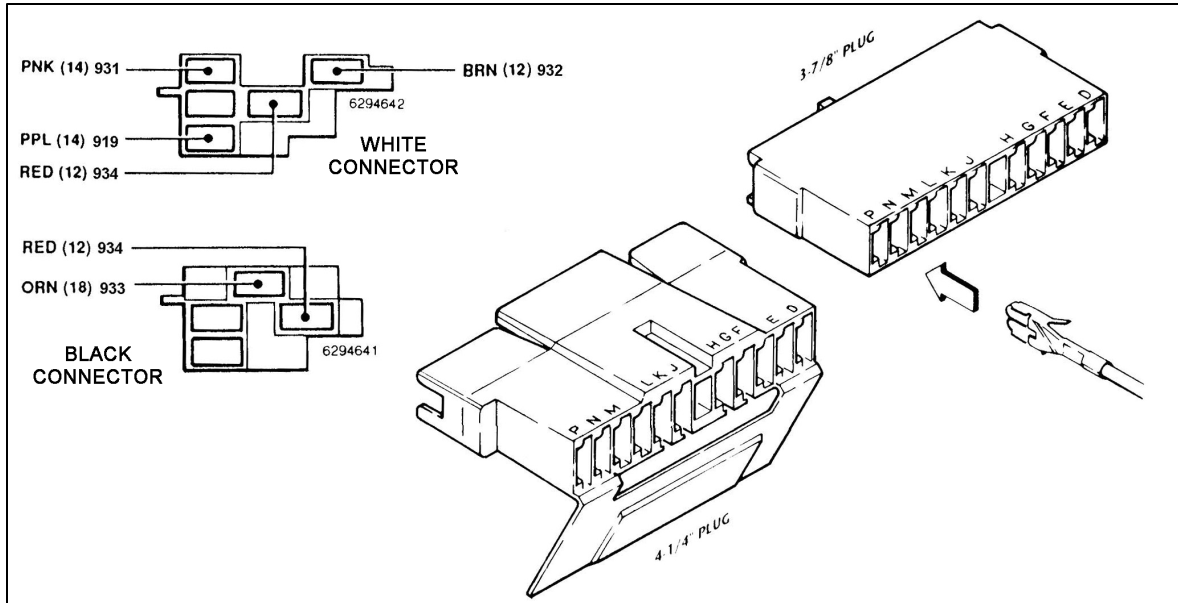

Figure 9-3 GM Ignition and Turn Signal Connectors (Aftermarket Column)
9.2 There are two different plugs on aftermarket tilt columns. The difference is in the length of the male plug that is mounted ON THE COLUMN. One plug is 3-7/8" (3.875") long and the other is 4-1/4" (4.250"). This is only a difference of 3/8" (0.375"), so measure the plug carefully. The Wire Harness Kit has included two different female connectors to mate with the column-mounted plug. See **Figure 9-3** to determine which female connector is correct for your automobile.
In the TURN SIGNAL SECTION, cut wires to length and install the terminals provided. Choose the proper plug and install the terminals according to **Table 9-2**, as shown in **Figure 9-3**. The GM wire color codes have been included for reference. **Note:** The terminals will only insert into the connector ONE WAY, as shown in **Figure 9-3**. Make certain you are inserting the wire into the CORRECT LOCATION as the terminals are difficult if not impossible to remove once inserted.